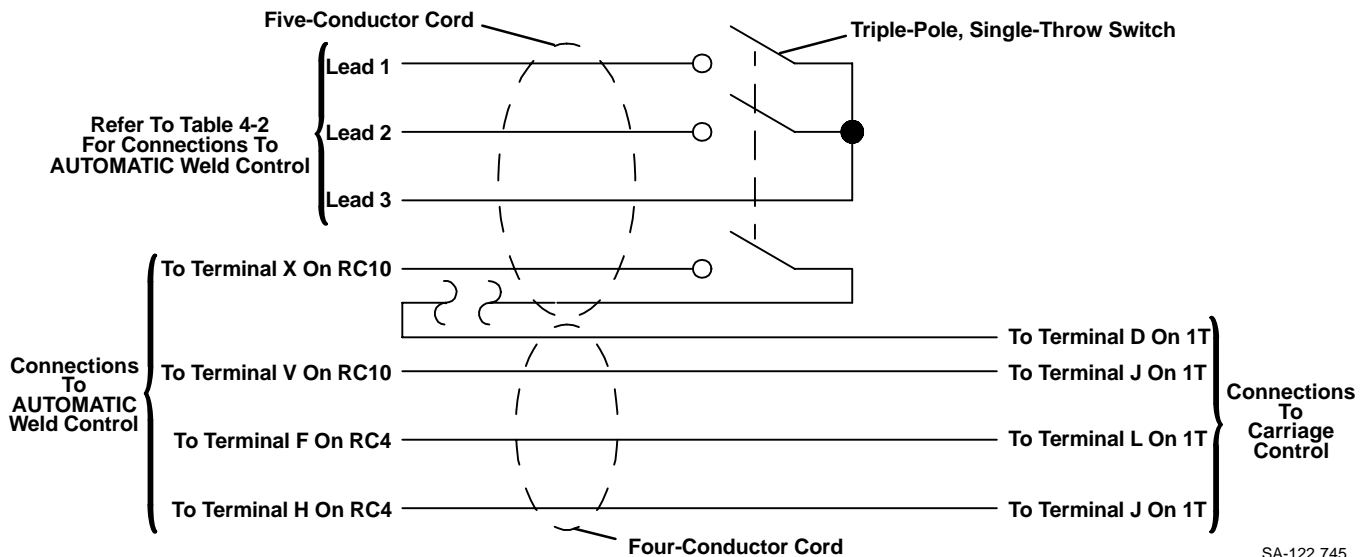

Figure 4-1. Skip Welding Switch Connections (Triple-Pole Single-Throw Switch)
D. Connections To Automatic Weld Control (Table 4-2 And Figure 4-1)
- Use Figure 4-1 to locate leads 1, 2, and 3 from the triple-pole, single-throw switch.
IMPORTANT: The switch leads are not numbered. The leads are referred to as leads 1, 2, and 3 in Figure 4-1 to simplify installation.